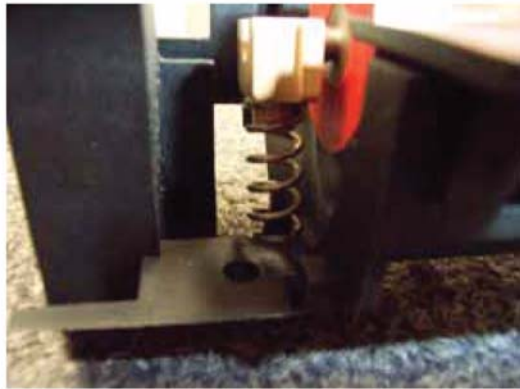

Figure 2
2. When re-assembling, be careful to set the bushing and spring in the correct position, Figure 2.